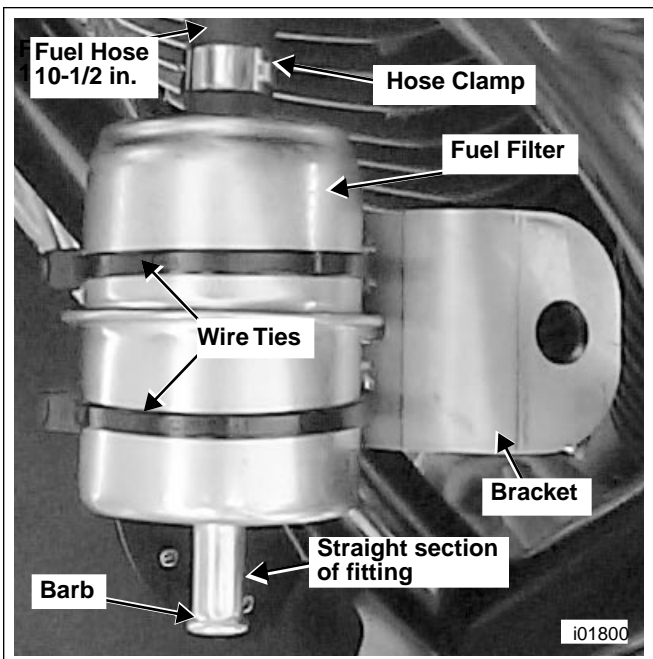

Figure 3. Filter Mounted to Bracket (X1 Shown)
6. See Figure 3. Using the wire ties, attach the fuel filter to the bracket with the filter's ridge on the middle slot of the bracket. Verify that the flow arrow on the filter is pointing towards front of vehicle.